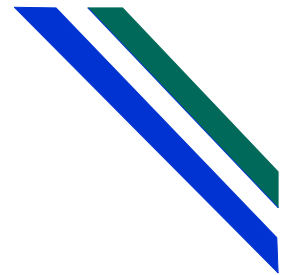

FIG 1.
8. To prevent a build up of water at the base of the door, early cars were fitted with a separate door rubber seal inserted in a channel pop-riveted to the door aperture. "A" Fig. 1. Assist the drainage by drilling three equidistant 3/16" die. holes in the top of the body sill panel in-board of the riveted channel at the bottom of the door aperture. "B" Fig. 1. To allow drainage from the body sill, a drain hole 1/4" dia. should be drilled at the rear wheel arch end of the outer sill panel at its lowest point. "C" Fig. 1
The later type of door aperture sealing rubber, part No. 707931, which combines the aperture sealing rubber and aperture flange finisher may be fitted. "D" Fig. 1. The original channel for the older type rubber should be retained as the new rubber fitted to the aperture flange will almost conceal it.